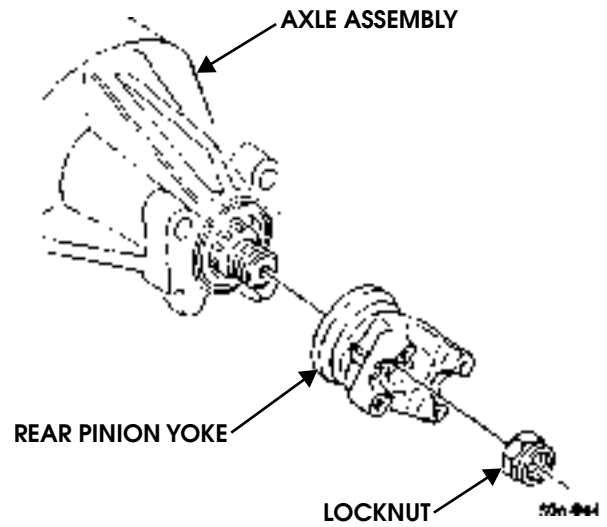

Figure 9-58: Pinion Yoke Removal
14. Remove locknut and rear pinion yoke from axle assembly (Figure 9-58).
1. Secure rear pinion yoke to axle assembly with locknut (Figure 9-58).